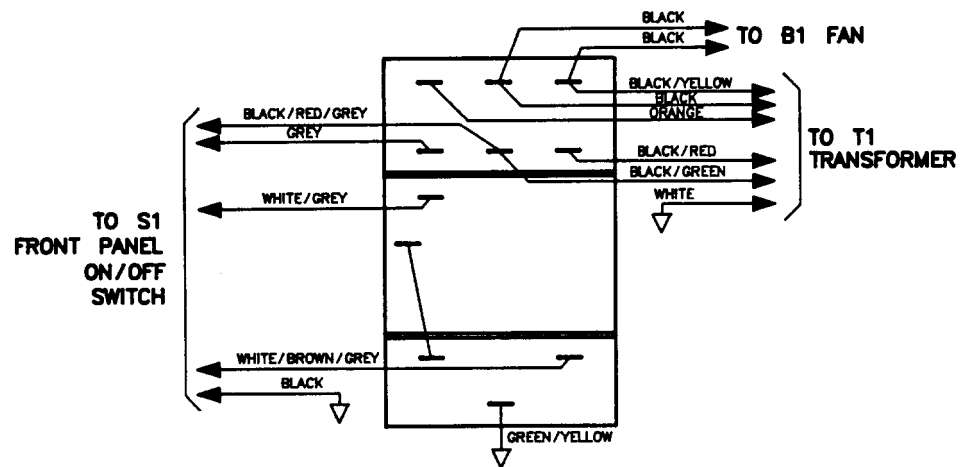

Figure 5-9 Wire Connections to Line Module FL1
Refer to Figure 5-9 on page 5-22 and the following text to repair 3.5 mm connectors.
7. Remove transformer T1. When replacing the transformer, refer to Figure 5-9, which illustrates the locations of the various wires connected to line module FL1.